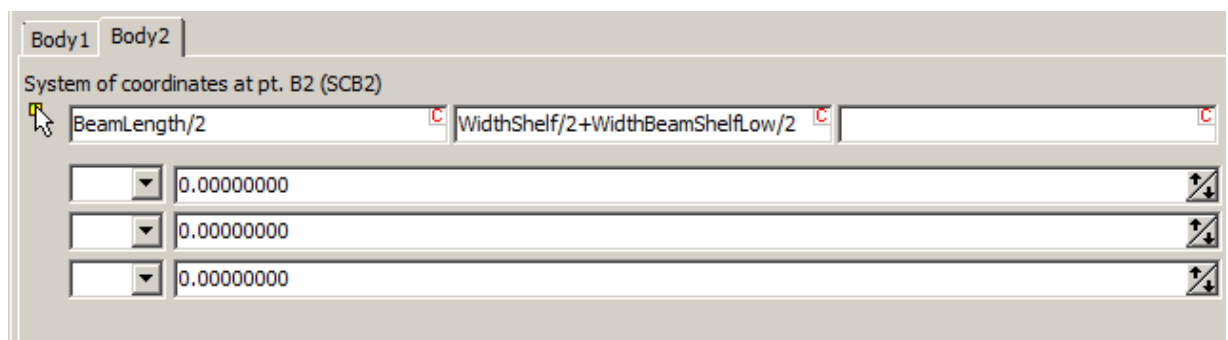

Figure 2.42.
6. Select **Body2** tab. Set coordinates of element attachment points to the second body **Platform.Platform** (Figure 2.42):